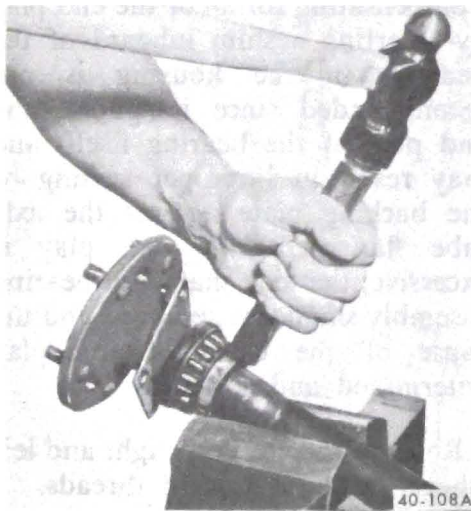

Figure 40-90 - Removing Axle Shaft Bearing Retainer
1. Position and tighten axle shaft in vise so that the retainer ring rests on vise jaws. Use a heavy chisel and hammer to crack ring. See Figure 40-90.